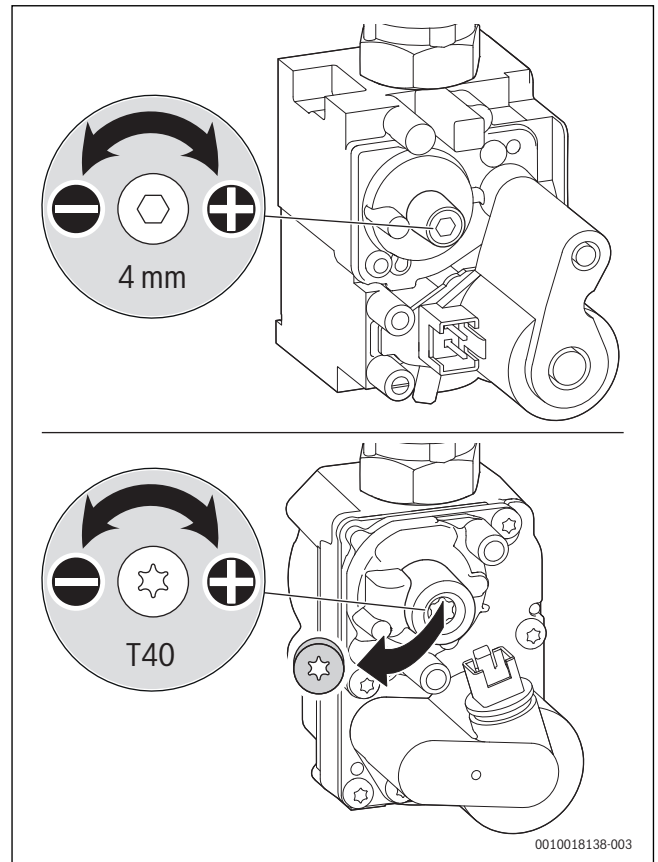

Fig. 94 Setting the CO₂ content (above: SIT valve, below: Honeywell valve)
- ▶ Remove the seal from the adjusting screw of the air/gas ratio control valve (only air/gas ratio control valve is shown in the below Fig. 94) and set the CO₂ content for minimum rated output.